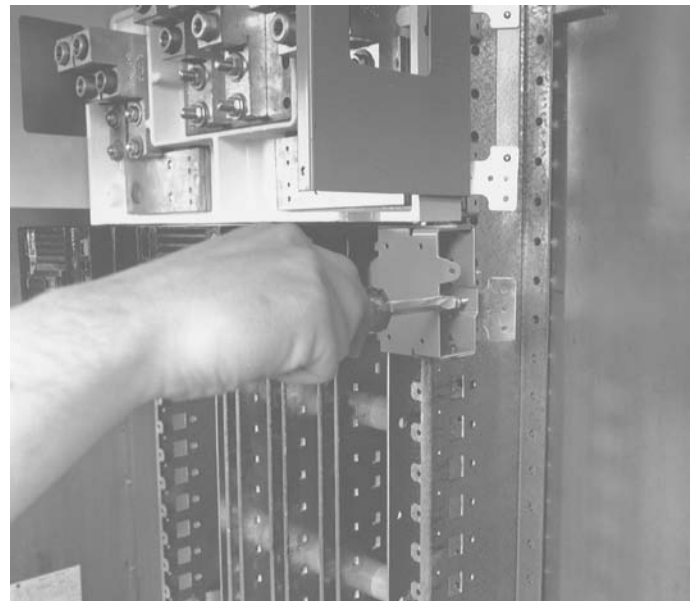

Figure 6. Installing the breaker module.
5. **Install the module.** Latch one side of the circuit breaker module. Release the rail latch. Pivot the module onto the bus bars and engage the second latch. Release the rail latch. Tighten the rail latch screws to 25 in-lb, as shown in Figure 6.